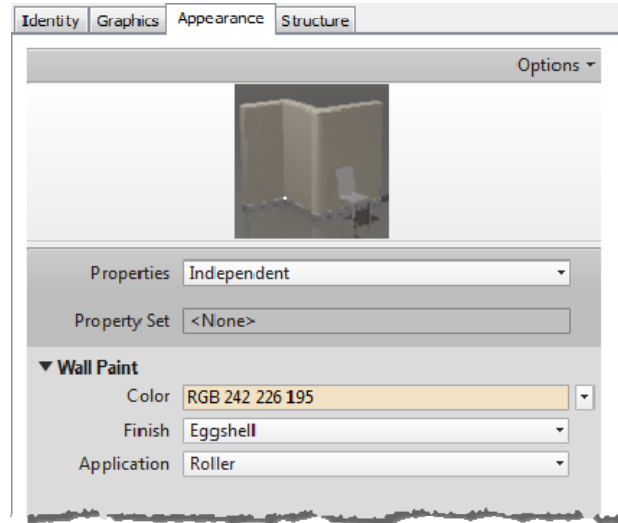

FIGURE 4-3.14 Materials dialog; Appearance tab for PT1
40. Switch to the **Appearance** tab (Figure 4-3.14).